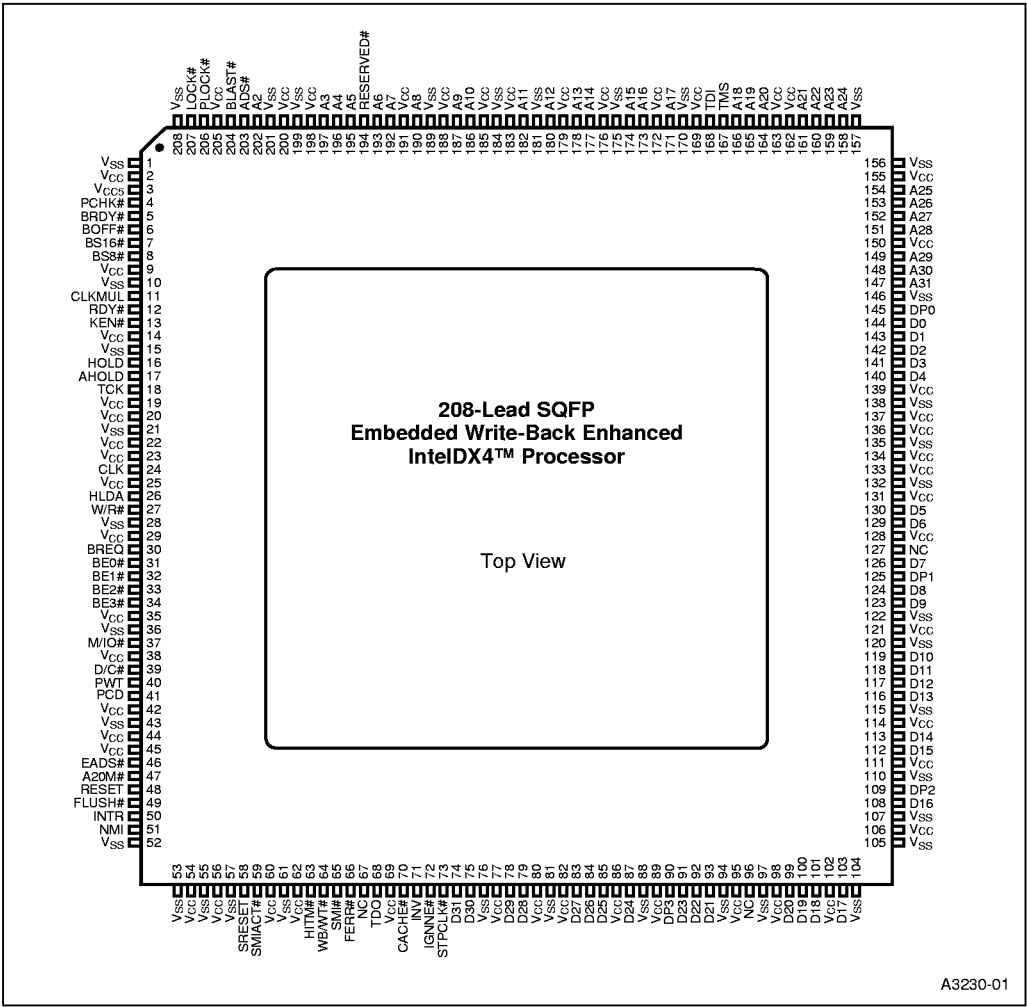

Figure 2. Package Diagram for 208-Lead SQFP Embedded Write-Back Enhanced Intel®DX4™ Processor
- Figure 2, Package Diagram for 208-Lead SQFP Embedded Write-Back Enhanced IntelDX4™ Processor (pg. 4)